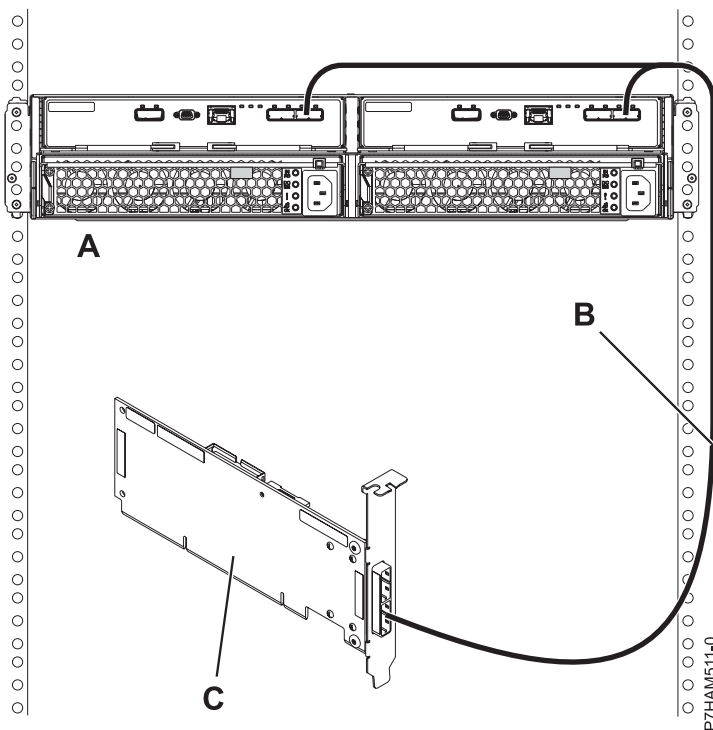

Figure 12. Mode 1 connection of one 5887 disk drive enclosure by using a YO cable to a single SAS adapter
13. Perform the mode 1 connection of one enclosure (A) by using a YO cable (B) to a single SAS adapter (C). See Figure 12.